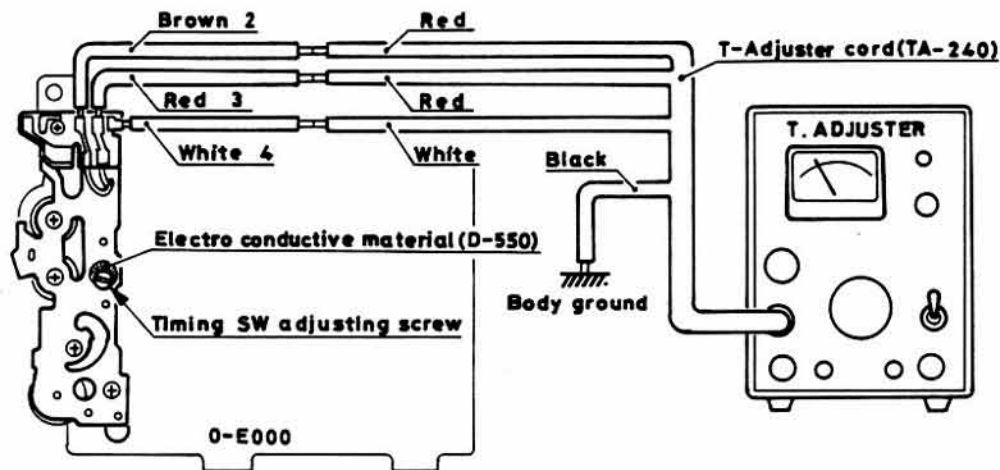

Fig. 13
- 1) Connect T-Adjuster cord (TA-240) as shown in Fig. 13.